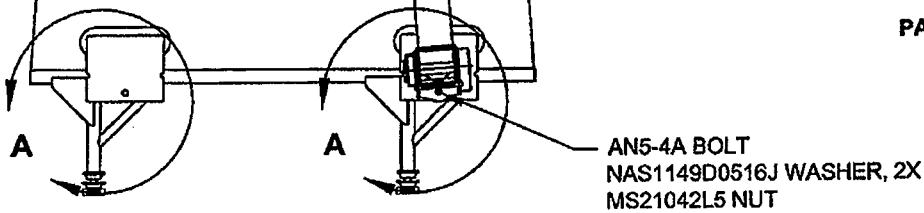

FIGURE 1
4. INSTALL INERTIA REEL OF D4071-041 HARNESS ASSY USING THE HARDWARE PROVIDED AS PER FIGURE 1 (SHEET 2). ALIGN INERTIA REEL TO ENSURE WEBBING IS STRAIGHT. TORQUE FASTENERS TO 100-140 in-lbs.